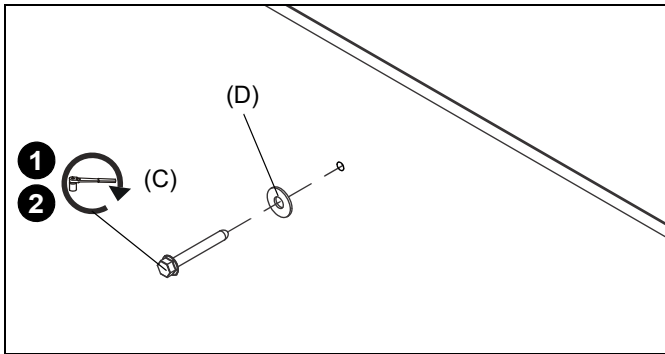

Figure 19
1. Use one 5/16" x 2-1/2" hex flange head lag bolt (C) and one 5/16" washer (D) through product and into pilot hole. (See Figure 19) and (See Figure 25)